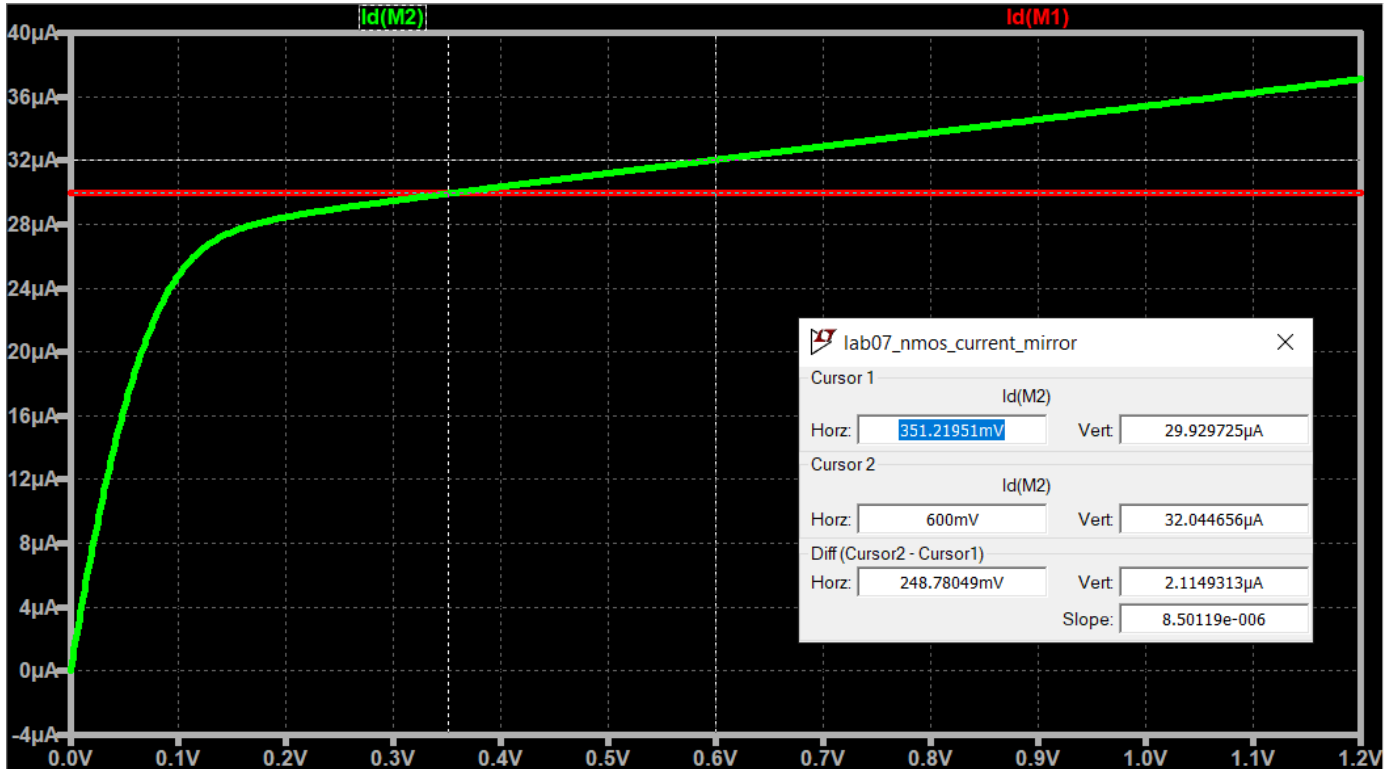

Figure 2.18 I_{BIAS} and $I_{DS,M2}$ comparison for the schematic in Figure 2.5
3. Run the simulation and plot I_{BIAS} and $I_{DS,M2}$. Combine them in one plot. You should get Figure 2.18.